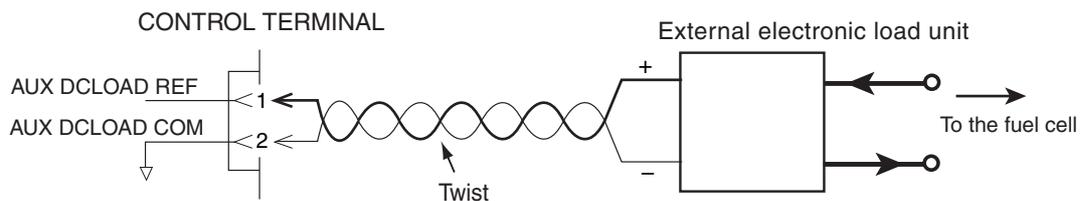

Fig. A-3 AUX DCLOAD REF output
*1. Fig. A-3 shows an example.